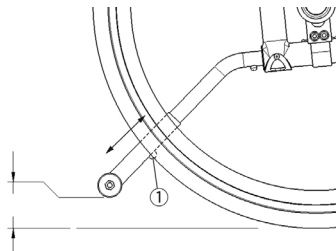

Fig. 39
- Press the push-button (1) (Fig. 39) and slide anti-tippers extensions to desired length.